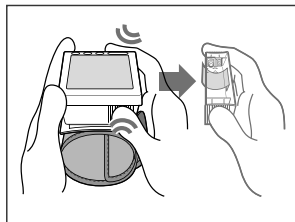

Fig.2
1. Disconnect the battery compartment (Fig.2).